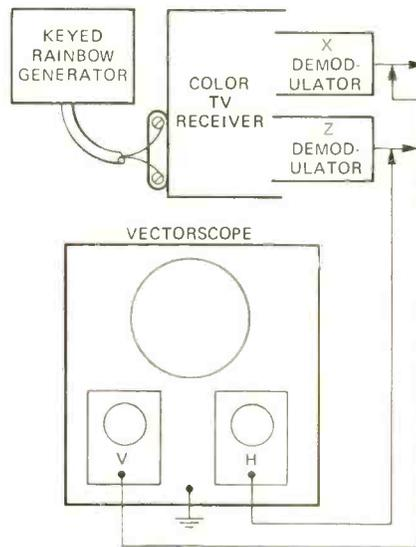

FIG. 1—EQUIPMENT AND CONNECTIONS used in the ten vectoroscope demodulator checks.
**Connections:** Connect equipment as shown in Fig. 1.
**Connections:** Connect equipment as shown in Fig. 1, except that you are connecting to red and blue color demodulators.
**Connections:** Connect equipment as shown in Fig. 1, except that you are connecting to blue and green color demodulators.